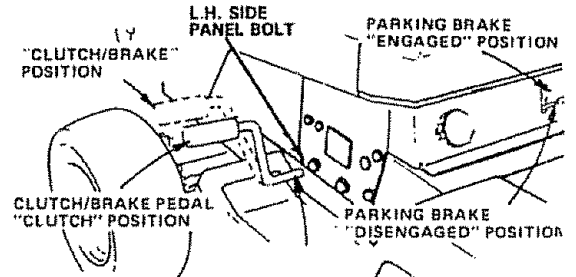

FIGURE 28
- Connect the other end of the cable to the L.H. side panel bolt (Fig. 28) NOTE: KEEP AWAY FROM GAS TANK AND BATTERY.
- L.H. side panel bolt (Fig. 28).